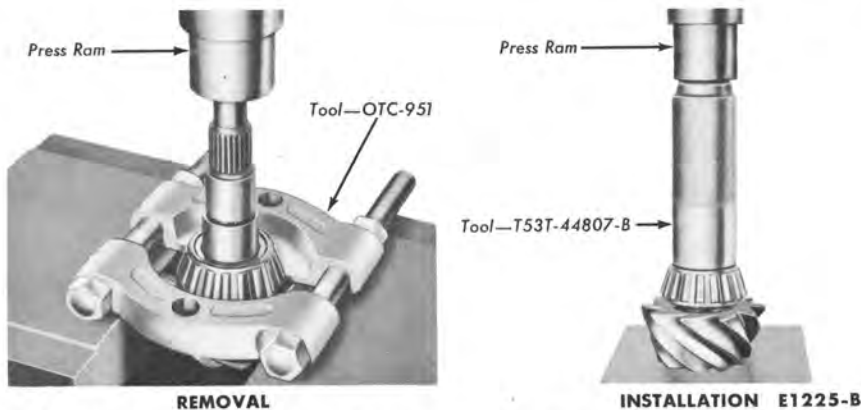

FIG. 12—Pinion Rear Bearing Cone Removal and Installation
10. Remove the pinion rear bearing cone (Fig. 12).
1. Place the shim and pinion rear bearing cone on the pinion shaft. Press the bearing and shim firmly against the pinion shaft shoulder (Fig. 12).